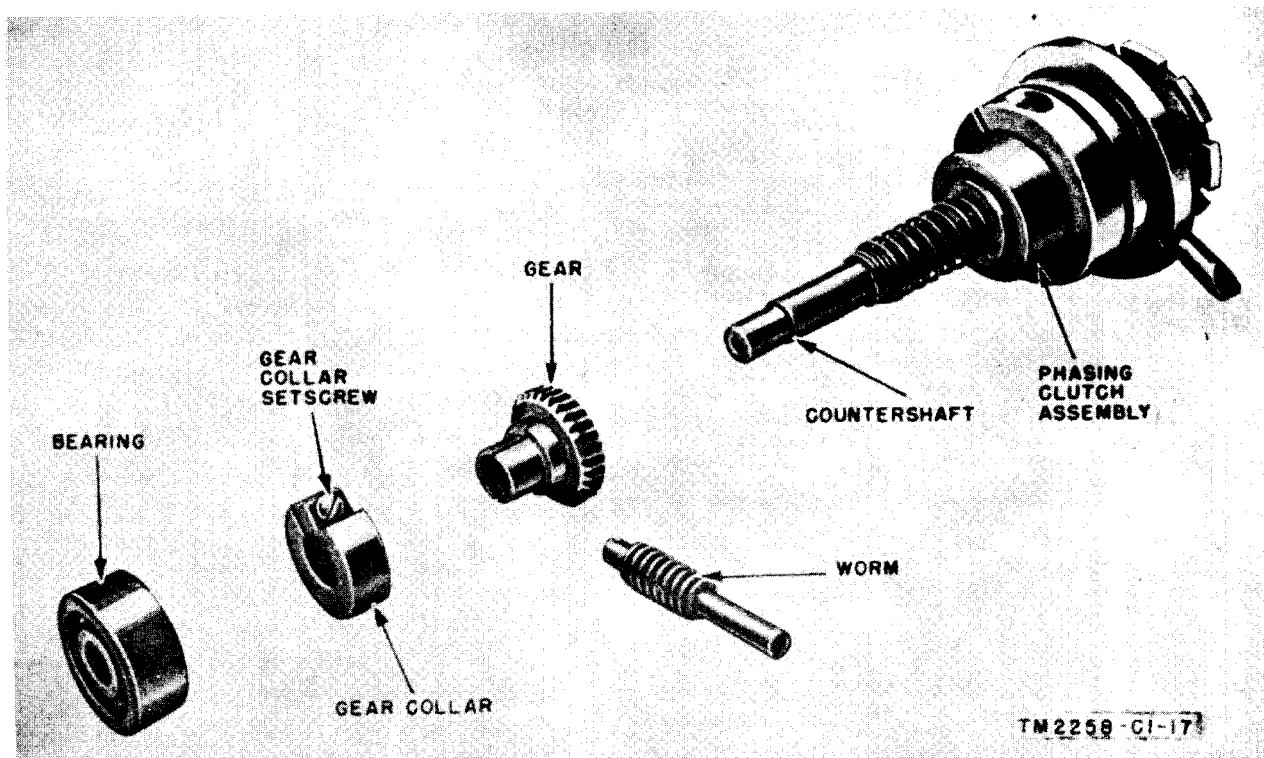

Figure 113. Bearing, gear collar, gear worm, and phasing clutch assembly, exploded view.
e. Loosen the gear-collar set screw (fig. 113).